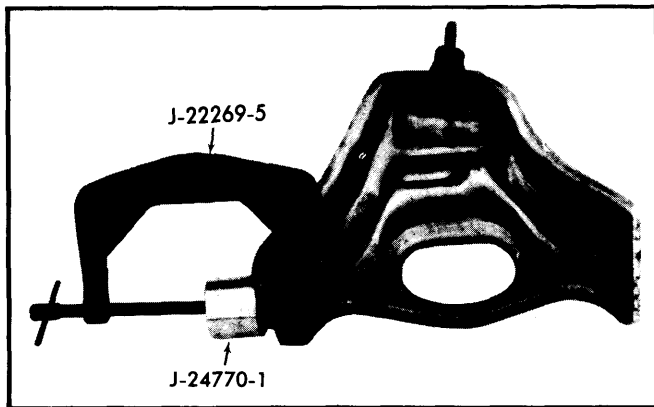

Fig. 3 Installing Upper Control Arm Bushing
**Bushing Installation** – Using same tools used for removal and Adaptor (J-24770-1), install bushings (see Fig. 3). Install bushing nuts loosely. Install upper control arm, and tighten bushing nuts.